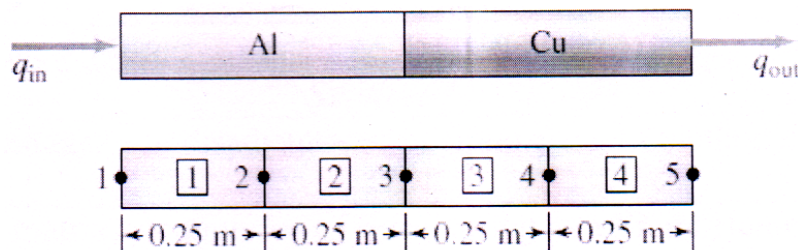

Figure 4
b) The circular rod depicted in Figure 4 has an outside diameter of 60 mm, length of 1 m, and is perfectly insulated on its circumference. The left half of the cylinder is aluminum, for which $k_x = 200 \text{ W/m-}^\circ\text{C}$ and the right half is copper having $k_x = 389 \text{ W/m-}^\circ\text{C}$. The extreme right end of the cylinder is maintained at a temperature of 80°C , while the left end is subjected to a heat input rate 4000 W/m^2 . Using four equal-length elements, determine the steady-state temperature distribution in the cylinder. [10]